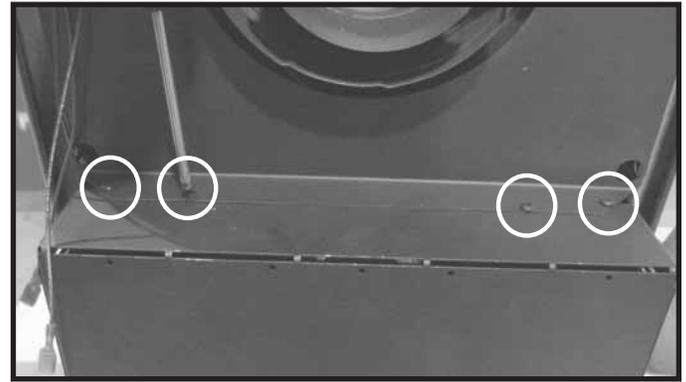

Figure 14
3. Holding the blower in place, attach it to the appliance with four of the screws provided. See Figure 14.